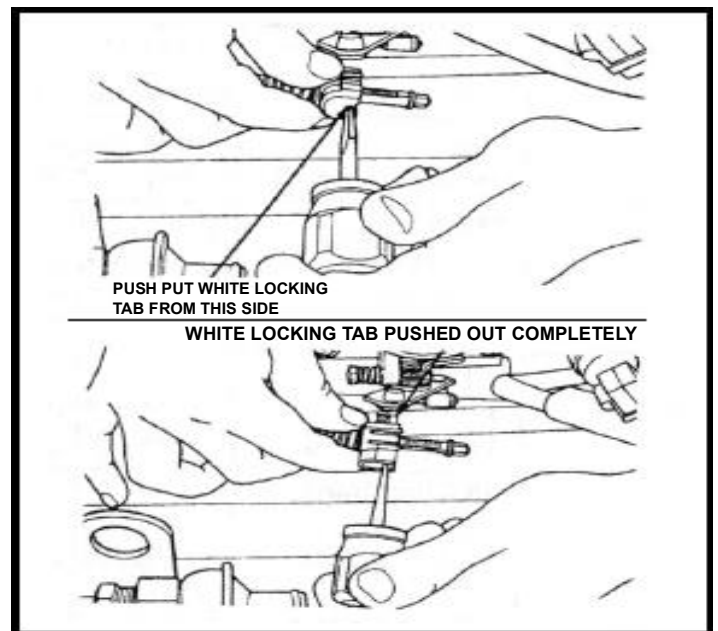

FIGURE 20
7.11 Push out locking tab. (See Fig. 20).